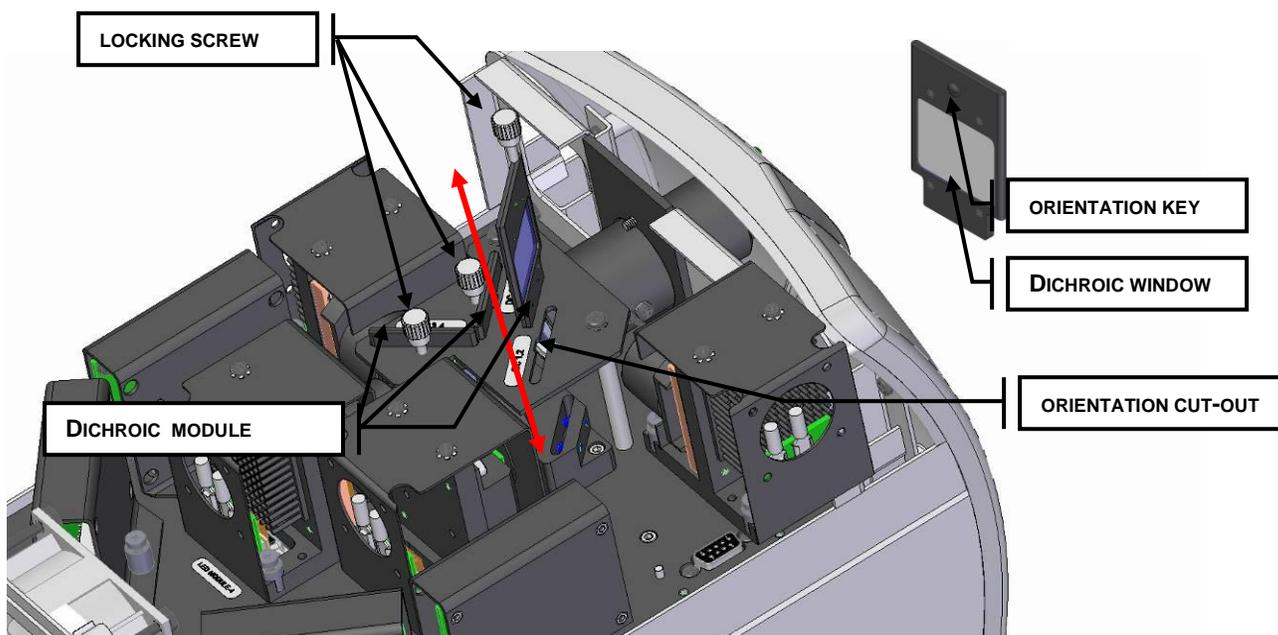

Figure 6 Dichroic Replacement
- 4.2.7 If the Dichroic is inserted incorrectly, the Dichroic's orientation key (located on the frame), will not pass through the cut-out on the top plate, resulting in an unseated Dichroic. Refer to Figure 6.